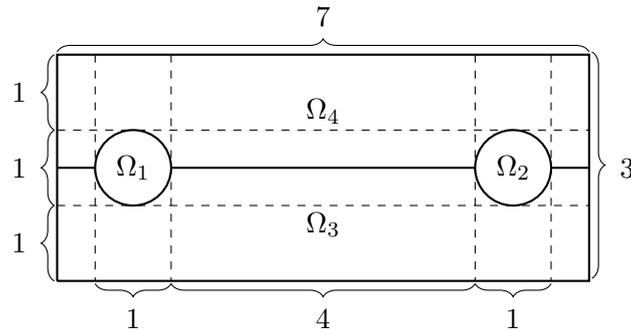

FIGURE 2.
**Exercise 2.** For this exercise we look at a more complex problem. Consider the geometry in figure 2, with  $\Omega = \Omega_1 \cup \Omega_2 \cup \Omega_3 \cup \Omega_4$  and boundary  $\Gamma = \partial\Omega$ .
- (a) Draw the domain shown in figure 2 with PDE toolbox. This requires two rectangles and two circles. To make drawing easy, make suitable adjustments to the axes limits and gridlines in the **Options** menu.